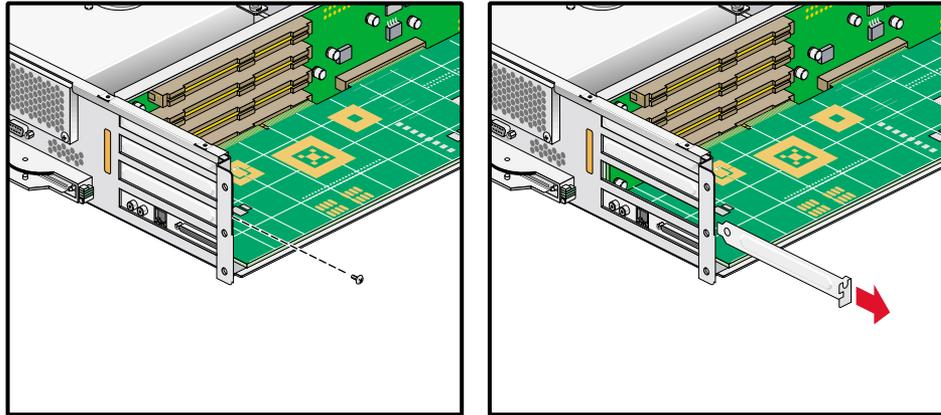

Figure 7-6 Removing the Blanking Plate
10. If a blanking plate covers the slot that is needed for the installation, remove the retaining screw, as shown in Figure 7-6, and the blanking plate.